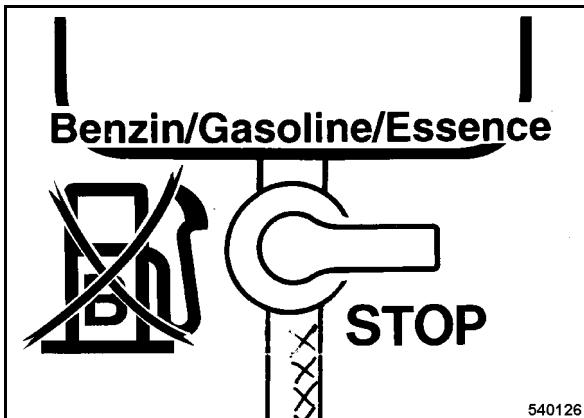

Fig. 23
- Set the fuel valve (Fig. 23) to "STOP" position (closed).